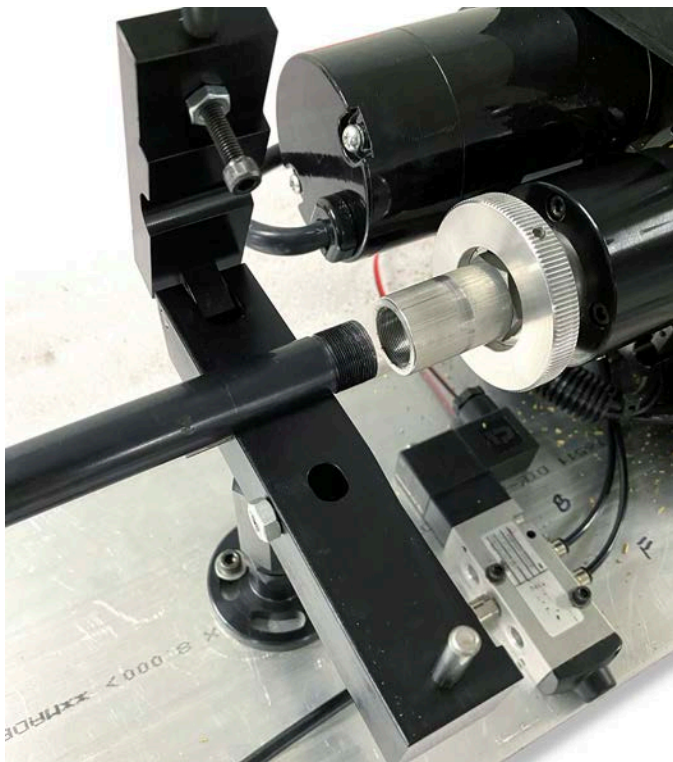

FIGURE 34
8. Unclamp the top clamp on the front mount. Then unthread the bar feeder tube from the alignment tool (P/Ns 88277 or 88278) (see Figure 34).